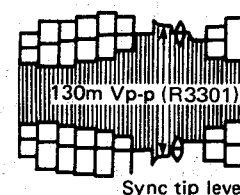

Figure 49.
4. Adjust R3301 (record current control) so that the sync tip level becomes 130m Vp-p as shown in Fig. 49.